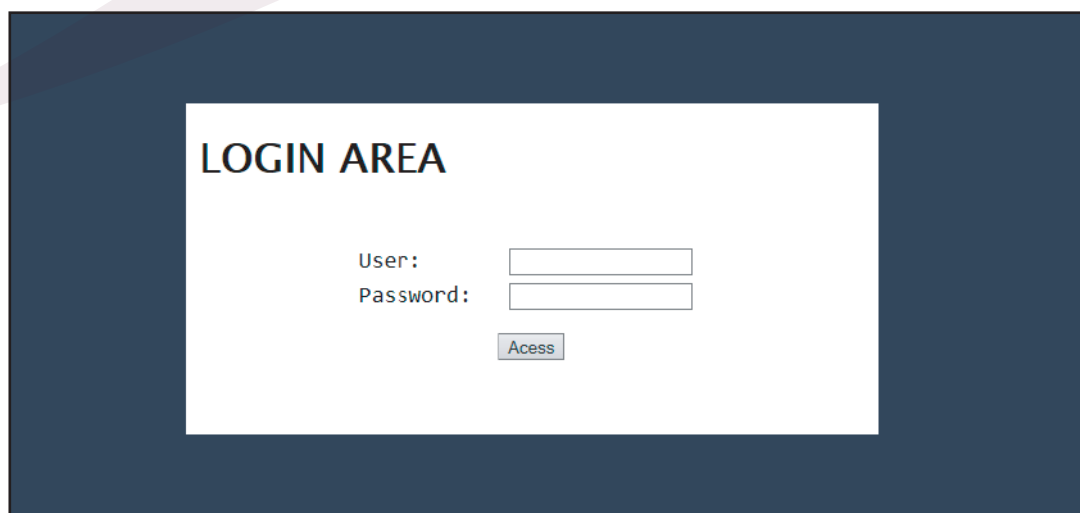

Figure 4 - DynaGateway access screen
3. On an internet navegador, access the address: 192.168.10.1. The system will request login information in order to access the DynaGateway configuration page (Figure 4).